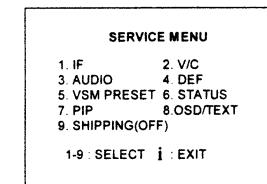
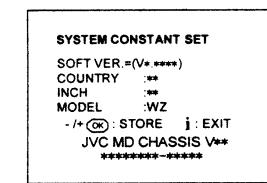

Fig.1
Fig.2
2. Remove the claws marked **C** under the CHASSIS as shown in Fig. 2.
3. While raising the claw marked **D**, remove the top of the AV BOARD slightly in the direction of arrow **E** as shown in Fig. 2.
(1) Power off	Switch the power off and unplug the power cord from the outlet.
(2) Replace ICs.	Be sure to use memory ICs written with the initial data values.
(3) Power on	Plug the power cord into the outlet and switch the power on.
(4) Check and set SYSTEM CONSTANT SET:	<p>1) Press the INFORMATION key and the MUTING key of the REMOTE CONTROL UNIT simultaneously.</p> <p>2) The SERVICE MENU screen of Fig. 1 will be displayed.</p> <p>3) While the SERVICE MENU is displayed, press the INFORMATION key and MUTING key simultaneously, and the SYSTEM CONSTANT SET screen of Fig. 2 will be displayed.</p> <p>4) Check the setting values of the SYSTEM CONSTANT SET of Table 1. If the value is different, select the setting item with the FUNCTION UP/DOWN key, and set the correct value with the FUNCTION +/- key.</p> <p>5) Press the MENU key to memorize the setting value.</p> <p>6) Press the INFORMATION key twice, and return to the normal screen.</p>
(5) Setting of receive channels	Set the receive channel. For setting, refer to the OPERATING INSTRUCTIONS.
(6) User settings	Check the user setting values of Table 2, and if setting value is different, set the correct value. For setting, refer to the OPERATING INSTRUCTIONS.
(7) Setting of SERVICE MENU	Verify the setting items of the SERVICE MENU of Table 3, and reset where necessary. For setting, refer to the SERVICE ADJUSTMENTS.